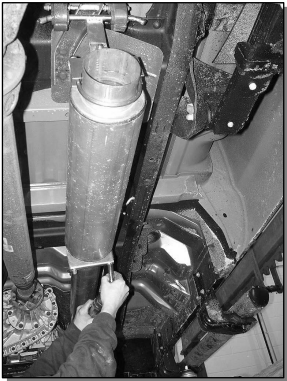

Figure 8
5. Install the **Muffler** over the **Extension Pipe**. The **Hanger Clamp** is used at the connection between the **Muffler** and the **Extension Pipe** and installed into the OEM rubber hanger at this position. Install the "T" **Hanger Clamp** into the two OEM rubber hangers located above the outlet of the **Muffler**. **See Figure 8.**